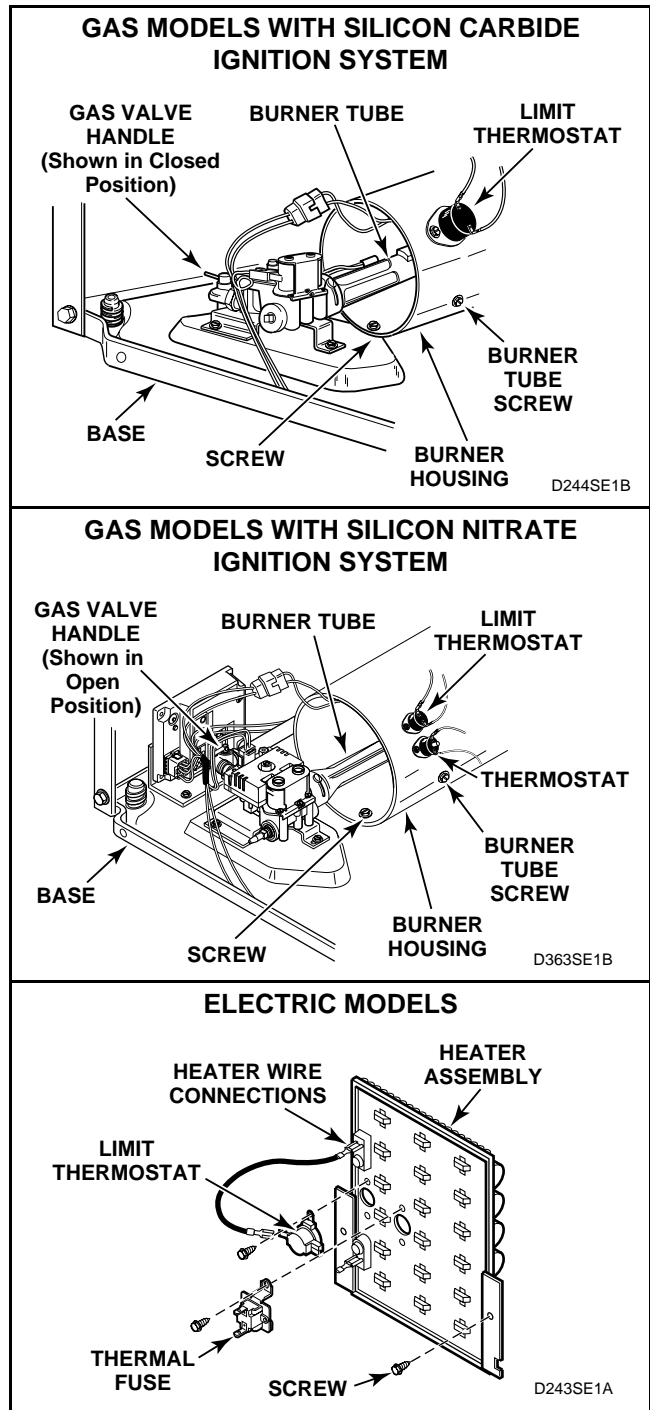

Figure 40
- (1.) Remove one screw from right side of burner housing holding burner tube in place. See *Figure 40*.
- (2.) Gently move burner tube toward rear of dryer to disengage tab from slot on left side of burner housing. See *Figure 40*.
- Remove screw from right side of burner housing, while holding burner tube in place. See *Figure 40*.
- Gently move burner tube toward rear of dryer to disengage tab from slot on left side of burner housing. See *Figure 40*.
- Remove screw holding front of burner housing to dryer base and remove housing out through front of dryer. See *Figure 40*.
- Disconnect wires and remove screws attaching limit thermostat to burner housing or element plate. See *Figure 40*.
- Disconnect wires from element and plate. See *Figure 40*.
- Remove two screws holding element and plate to heater box and remove element and plate out through front of dryer. See *Figure 40*.